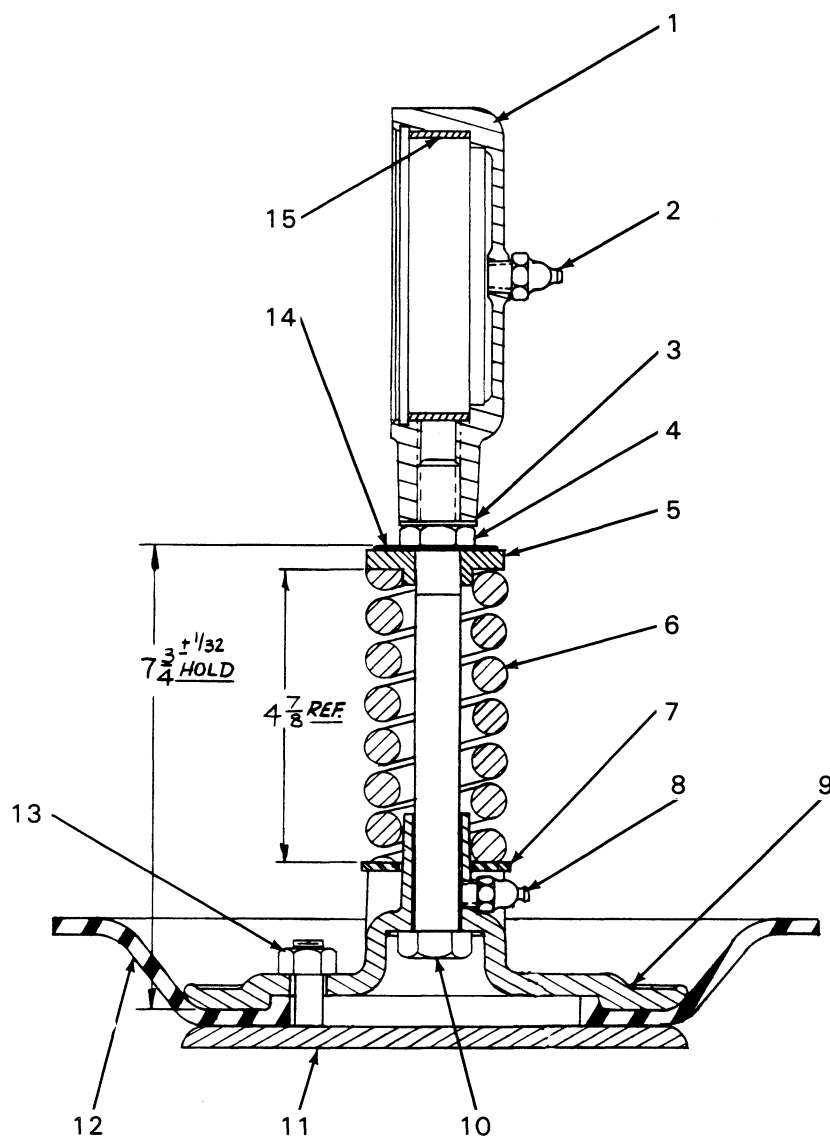

Figure 3. 5685 Plunger Rod Assembly
**Plunger Rod Disassembly (See figure 3)**